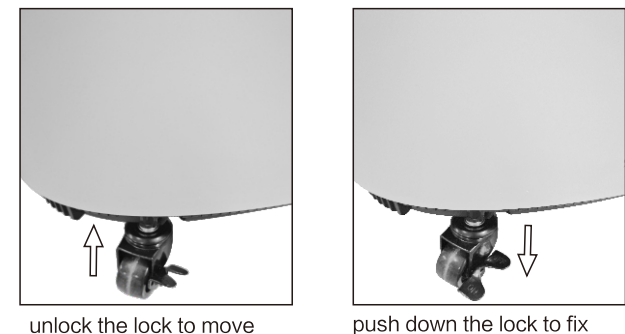

Figure 5: Caster
2. If you want to move the oxygen concentrator, unlock the locks on the four casters. (Figure 5)